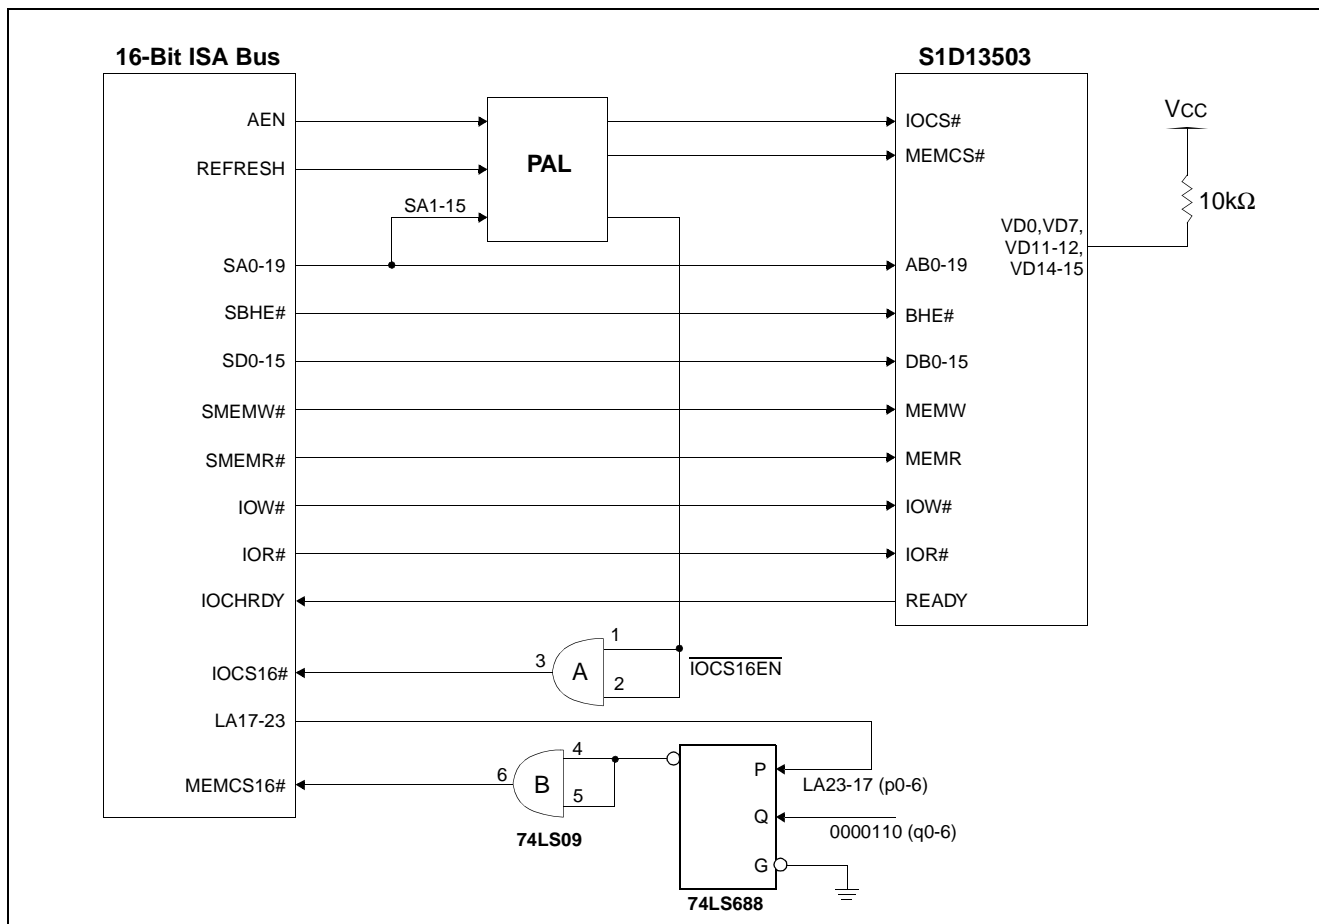

Figure 1: 16-Bit ISA Bus Implementation
- As shown in Figure 1, the 74LS688 is configured as a memory decoder with valid addresses between 0C0000h and 0DFFFFh. This provides the MEMCS16# signal allowing for 16-bit memory cycles. As stated in the ISA specification, the MEMCS16# is a straight address decode without qualification.